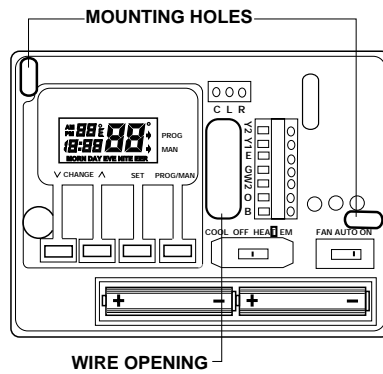

FIGURE 3
6. Mark placement of mounting holes (Figure 3). Set base aside.
9. Align base with plastic anchors and feed wires through opening (Figure 3).